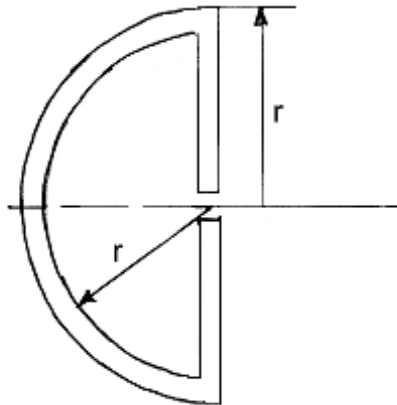

Figure 6:
6. Determine the location of shear centre for the cross-section having uniform thickness shown in figure 6. [16]